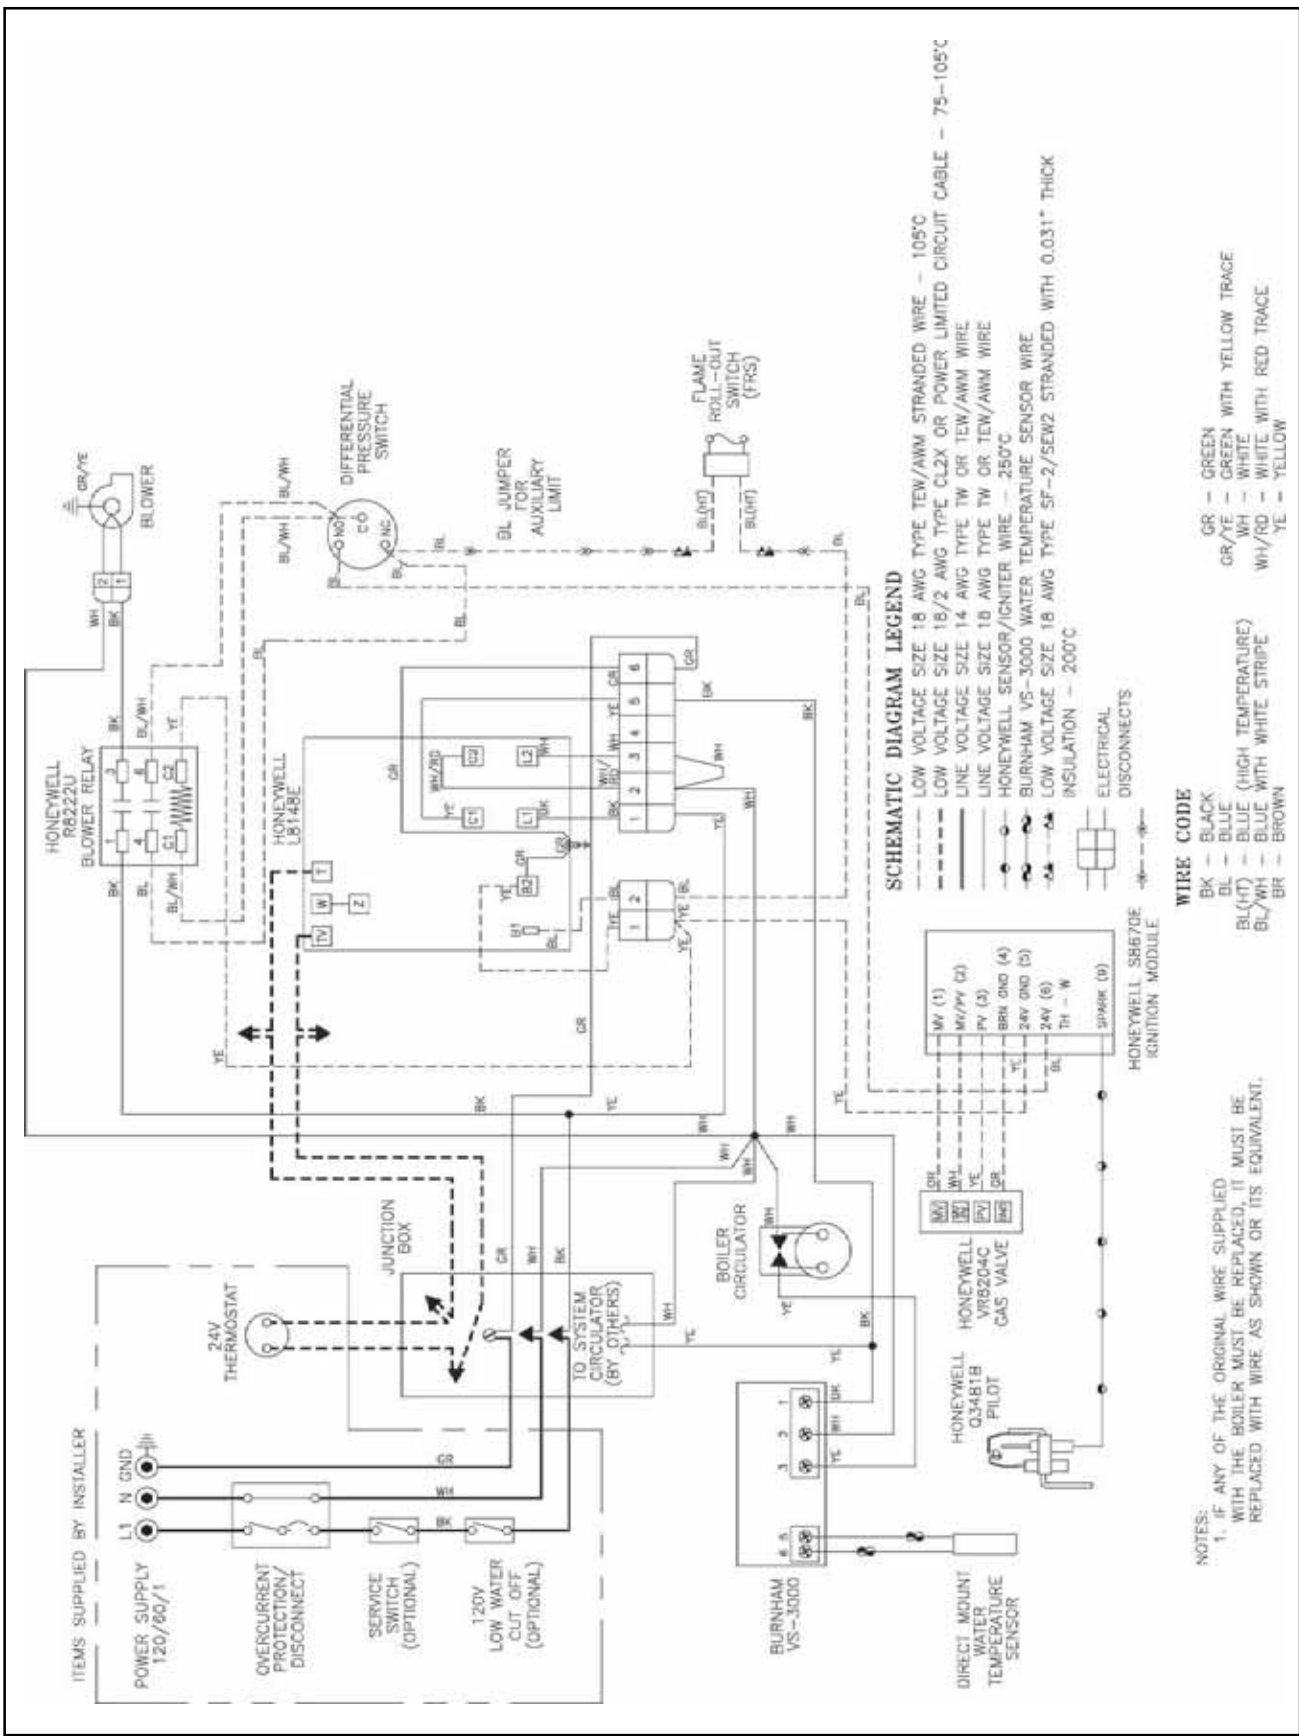

Figure 31: Internal Boiler Wiring Schematic Diagram
- B.** A separate electrical circuit must be run from the main electrical service with an over-current device/disconnect in the circuit. A service switch is recommended and may be required by some local jurisdictions. Install the service switch in the line voltage “Hot” leg of the power supply. Locate the service switch such that the boiler can be shut-off without exposing personnel to danger in the event of an emergency. Connect the main power supply and ground to the three (3) boiler wires (black, white and green) located in the junction box at the inside top of the boiler jacket. If a low water cutoff is to be used, connect the low water cutoff so that all 120V power to boiler is interrupted if the low water cutoff’s switch opens.
- C.** Refer to Figures 31 and 32 for details on the internal boiler wiring.